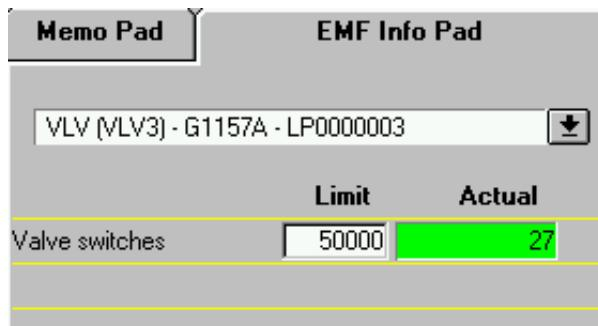

Figure 12 Early Maintenance Feedback (EMF)
- 2 Click on the **EMF** icon. The **EMF Info Pad** (Figure 12) will appear on the right panel of the user interface.